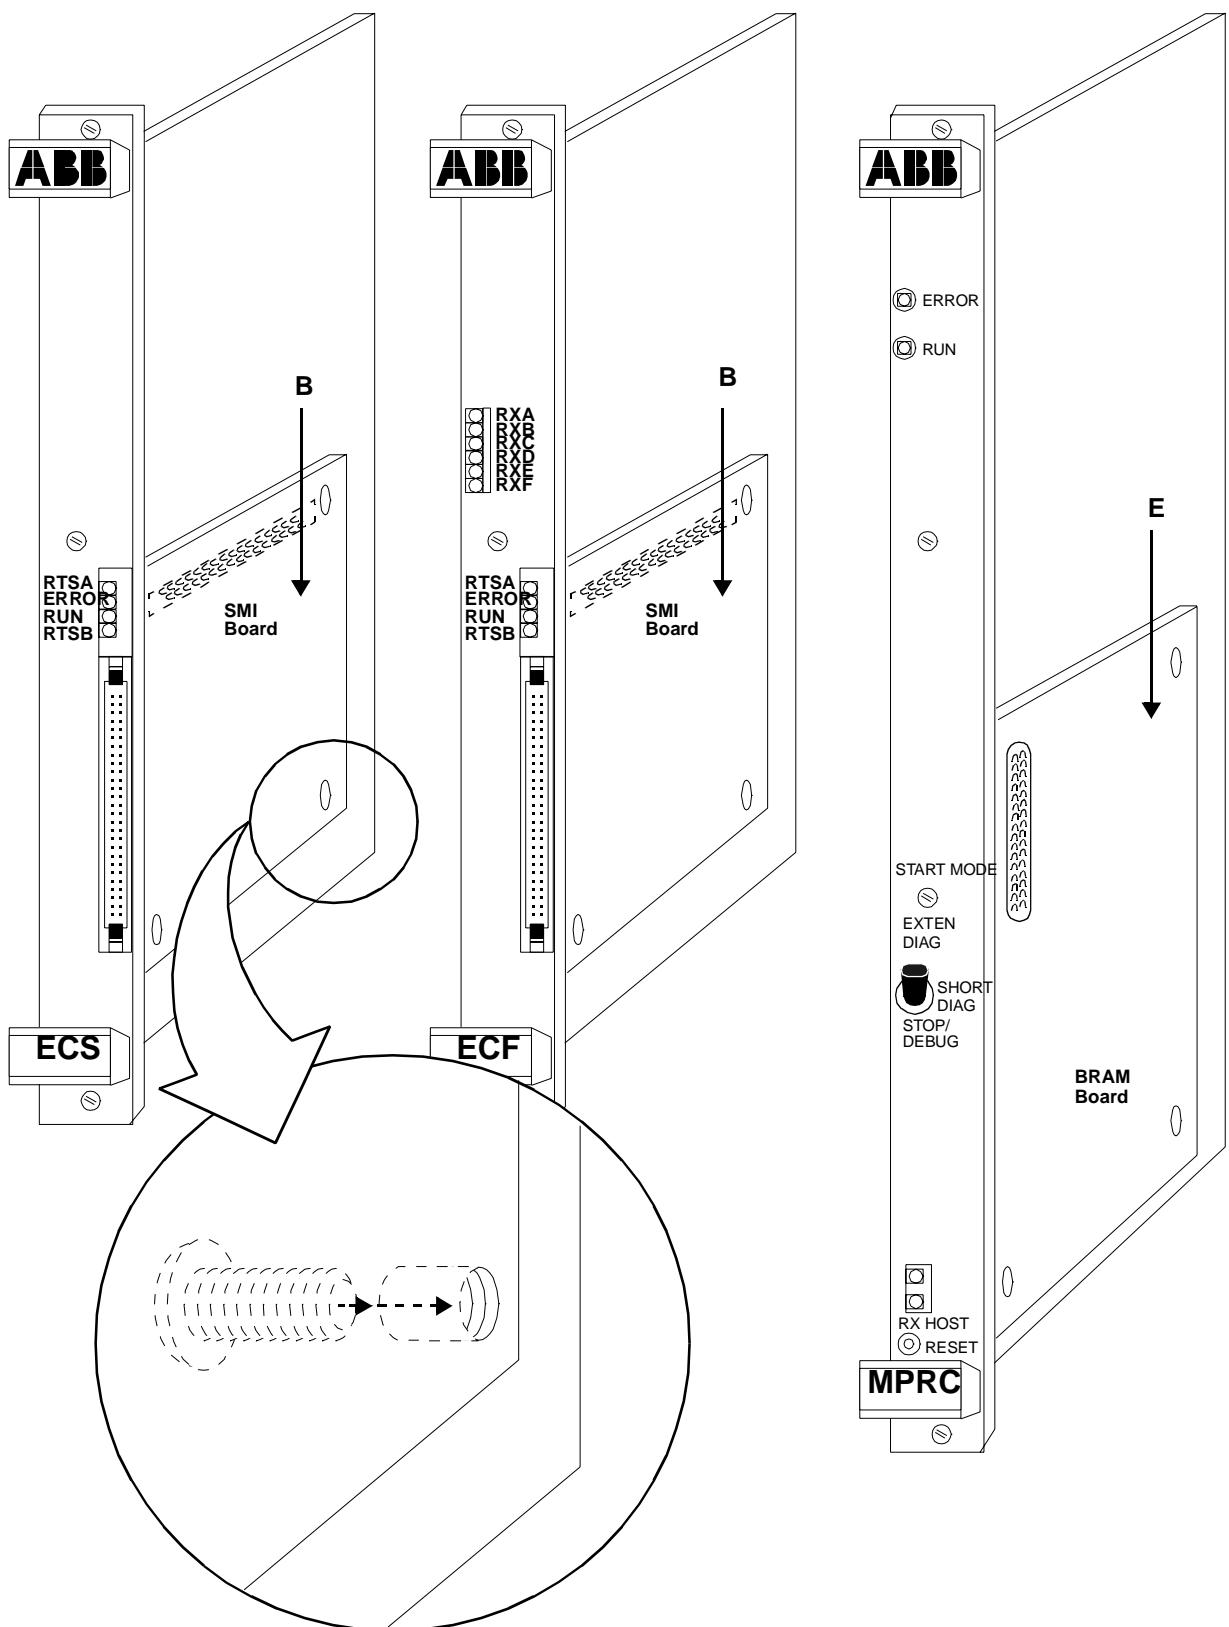

Figure 10-19 Location of SMI and BRAM Boards
- Figure 10-19 on page 220
2. The ECS, SMI, and MPRC Boards have daughter boards mounted on them. See Figure 10-19. These daughter boards must be ordered separately and are not supplied as part of the main board assemblies.